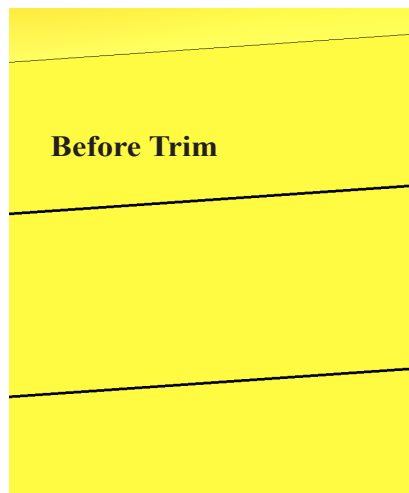
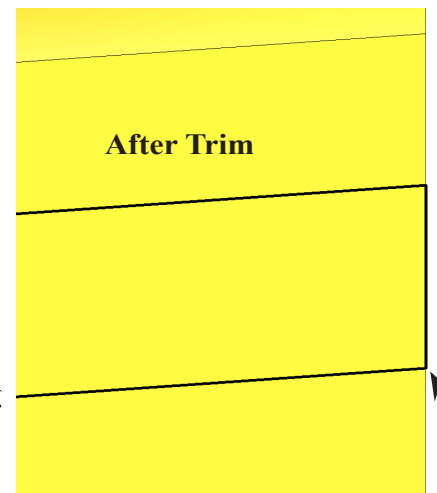

Fig. 108
Fig. 109
Step 34. Trim the small piece of line that extends out from body, **Fig. 108**. Results shown in **Fig. 109**.